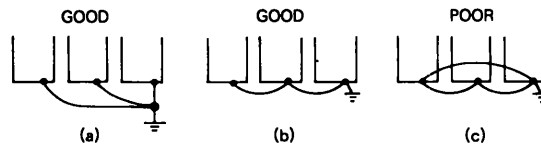

Fig. 7 Grounding of Three VS-616GII Units
- (1) Ground resistance should be  $100\Omega$  or less.
- (2) Never ground VS-616GII in common with welding machines, motors, and other large-current electrical equipment, or ground pole. Run the ground lead in a separate conduit from leads for large-current electrical equipment.
- (3) Use ground lead listed in Table 18 (page 47) and make the length as short as possible.
- (4) Where several VS-616GII units are used side by side, all the units should preferably be grounded directly to the ground poles. However, connecting all the ground terminals of VS-616GII in parallel, and ground only one of VS-616GII to the ground pole is also permissible (Fig. 7). However, do not form a loop with the ground leads.